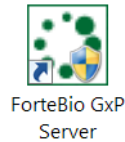

Figure B-31: ForteBio GxP Server Desktop Icon
- **ForteBio GxP Server module on a local host computer**—Double-click the ForteBio GxP Server desktop icon (Figure B-31).